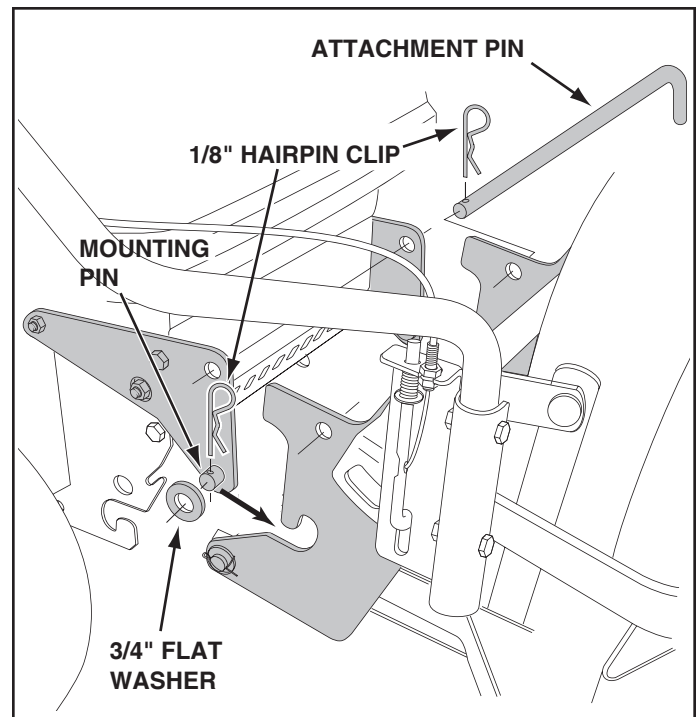

FIGURE 20
- Secure the snow thrower to the tractor using the attachment pin and 1/8" hairpin clip. Insert the attachment pin from the left side. See figure 20.